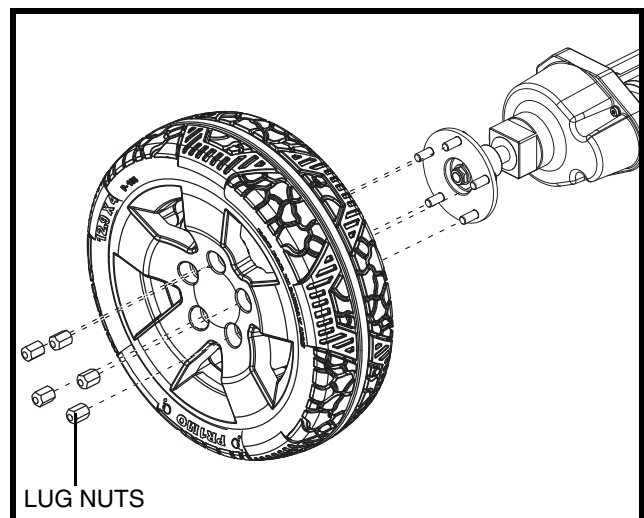

Figure 20. Solid Tyre Wheel Removal
3. Remove the lug nuts. See figure 20.